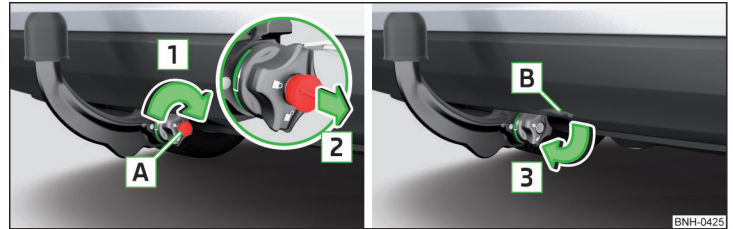

Fig. 108 Secure the lock and remove key / place cap on lock
- Turn the key **A** in the direction of arrow **1**, so that the arrow on the key symbol **A** » Fig. 108 shows.